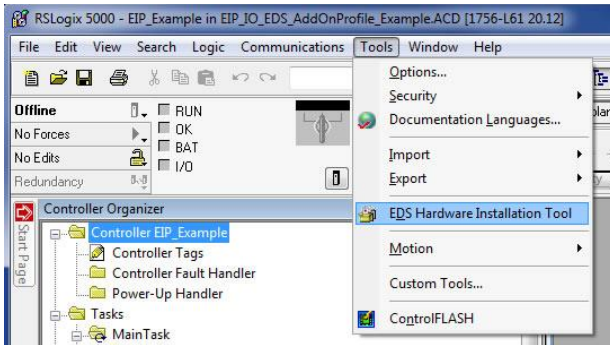

Figure 26: EDS Hardware Installation Tool Menu
- 1) Register the interface card's EDS file. In the menu bar, navigate to Tools...EDS Hardware Installation Tool. Refer to Figure 26.